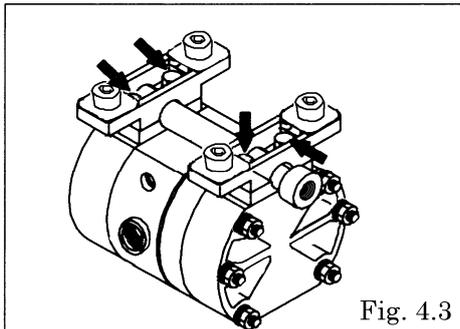

Fig. 4.3
- Turn over the main body assembly. [Fig.4.3]